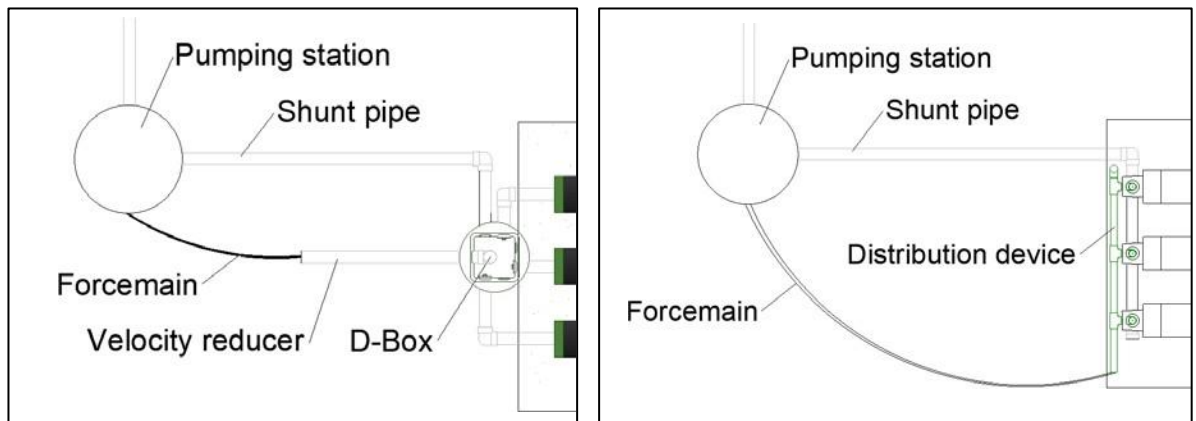

Figure 49. A. Pumping in D-Box / B. LPDS
- Install a shunt pipe (also known as an air by-pass pipe) between the treatment system and the pumping station in order to re-establish the air circuit, as seen in Figure 49;